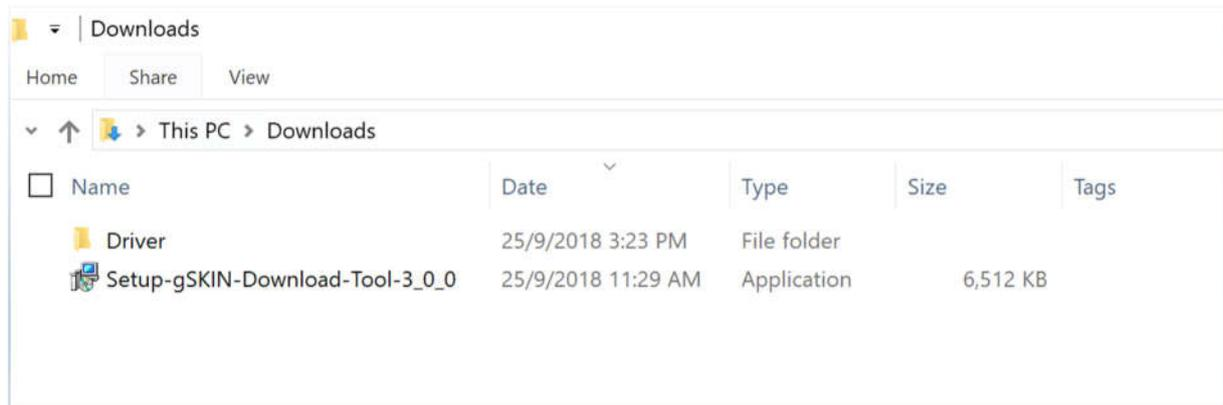

Figure 5. Components of the zip file
- Unpack the zip file to your preferred directory on your local hard disk. You will find the files as shown in Fig. 5